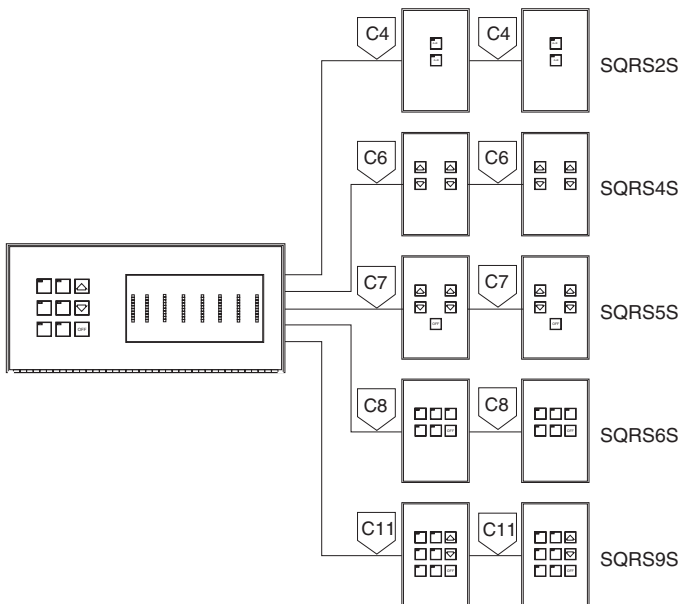
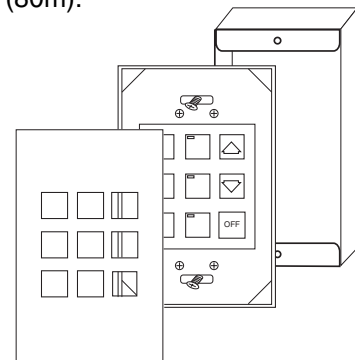
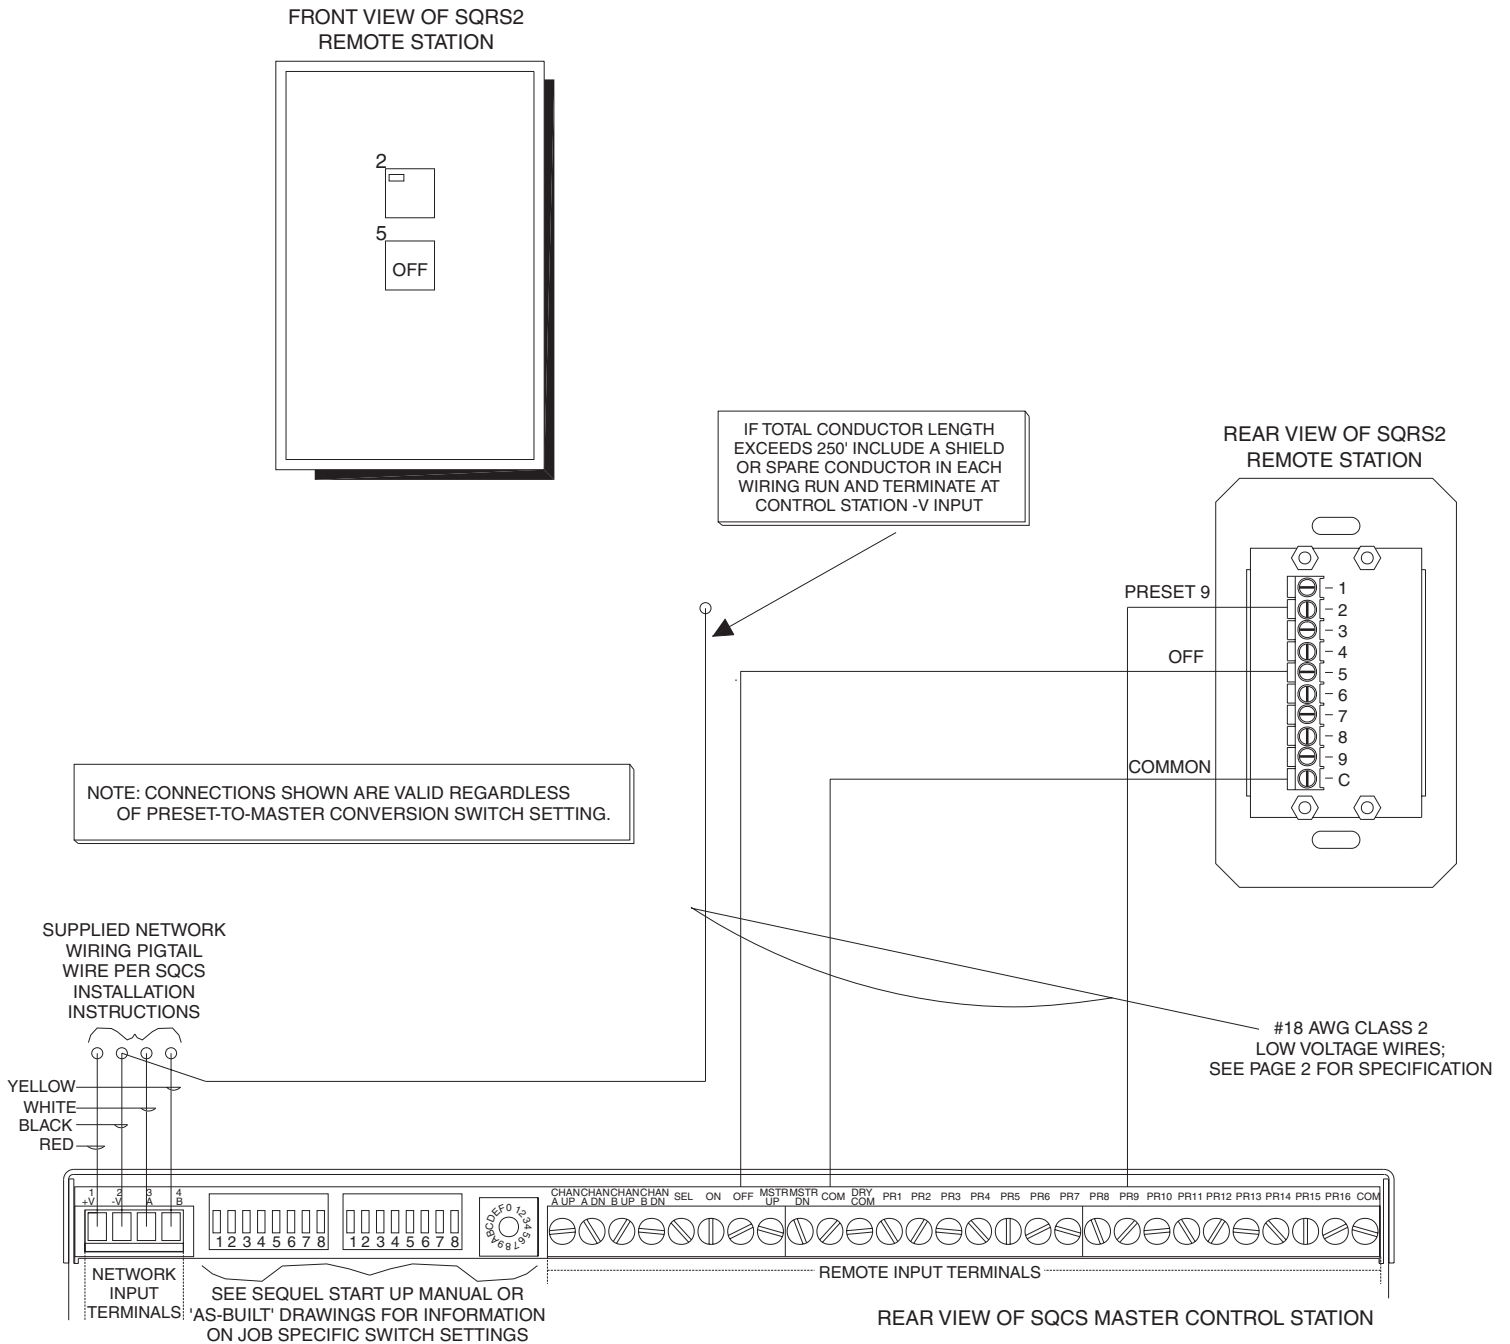

Figure 1
Figure 2 - Exploded View of Remote Station
Figure 3 - Synergy Control Station to SQRS2S Remote Control Station Interconnection Wiring Details
1. Install a 2" wide single gang masonry box (RACO #690, Steel City #GW125C) or square corner ring (RACO #782) at the desired location. Remote station frame must be mounted to a grounded back box, or a separate ground conductor must be added. For cut-in locations do not use "F clips", use 2" wide box equal to Caddy MPLS to avoid the circuit board shorting to box. See *Figure 2*.
2. Connect this remote to a single Sequel Series Control Station (SQCS, SQMPCS, SQIDC) or a single Remote Station Interface (SQRSI, SQMPRSI) with (3) Class 2 #18 AWG conductors. Add a spare conductor to this run if total length exceeds 250 feet (80m).
3. Remotes which have the same function can be wired in a daisy chain, or may be home run separately and connected under the same terminal at the control station or interface. See *Figure 3*.
4. Refer to *Figure 1* (below left) for typical one line wiring details, and to figures 3 - 5 for Synergy typical interconnection wiring details. Refer to "As Built" drawings for project specific wiring details.